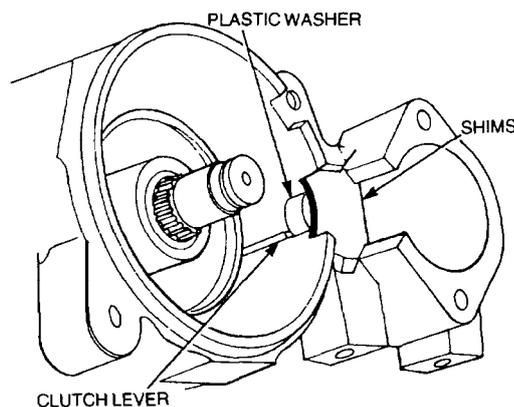

Figure 281 Removing the Clutch Lever and Pivot Bush
- p.** Remove the rubber seal from the clutch pivot bore. Remove the shims and plastic spacer. Remove the clutch assembly, lever and pivot bush (Figure 281).